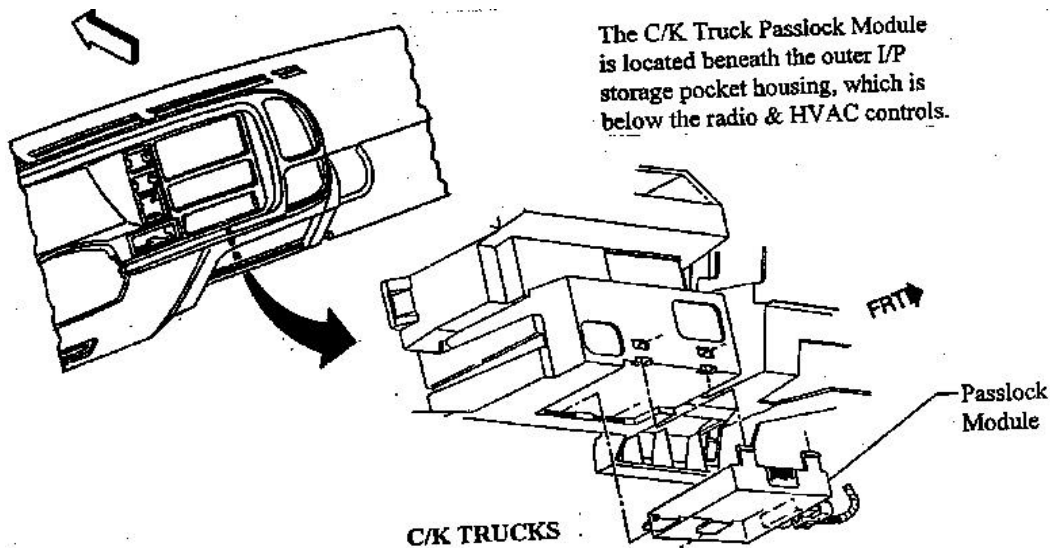

figure 10-1
1. Select a high quality low energy normally closed switch, mount in a location that is, close to the Passlock Module ( see figure 10-1), accessible to the driver, and will not interfere with vehicle operation.